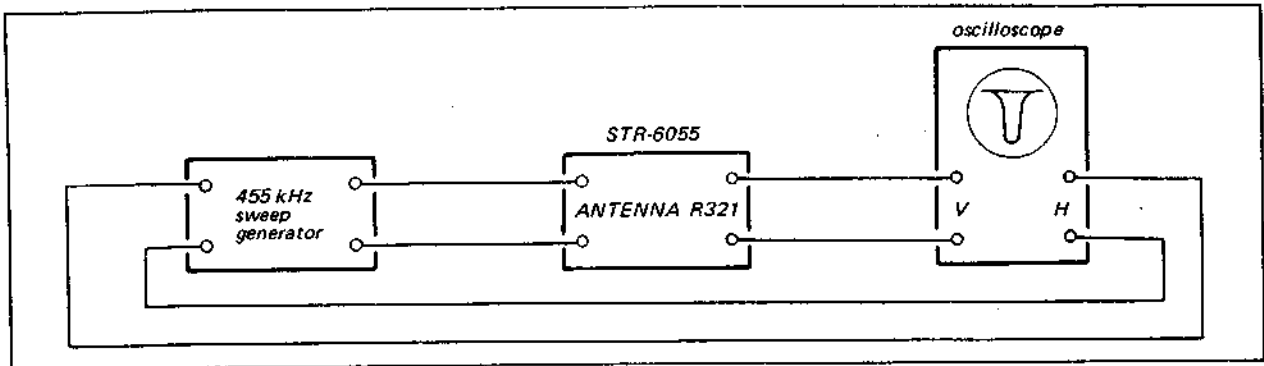

Fig. 3-10. A-m i-f strip alignment test setup by sweep generator
4. With the equipment connected as shown in Fig. 3-10, adjust the oscilloscope controls and generator output to provide a visible indication.